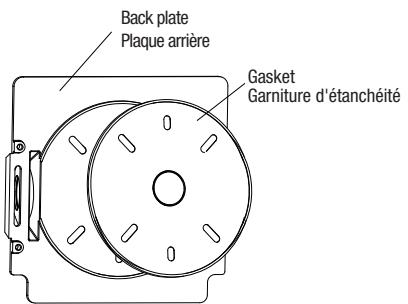

Fig. 2B
2. Peel the yellow sticker and paste the black gasket on the external round area of the back plate of luminaire (Fig. 2B).